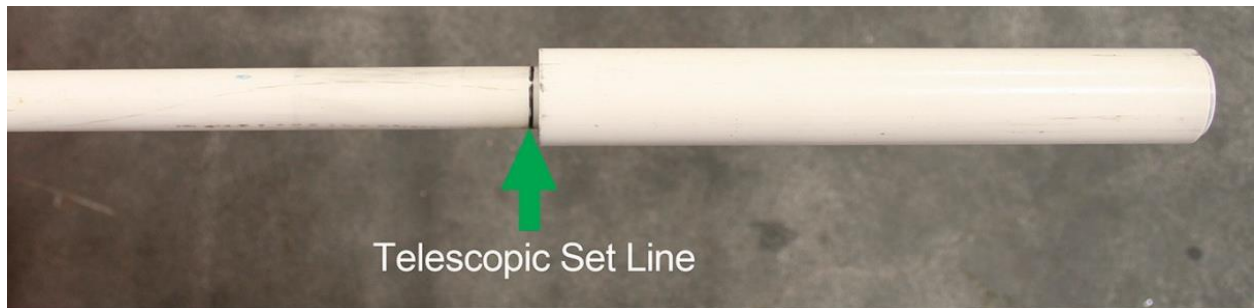

FIGURE 4-9 TELESCOPIC SET LINE
- 9 If necessary, adjust the position of the telescopic coupling so that it lines up with the mark on the $\frac{1}{2}$ " PVC sheath (Figure 4-9).
- 17 If necessary, adjust the position of the telescopic coupling so that it aligns with the set line on the 1/2" PVC sheath (Figure 4-9).